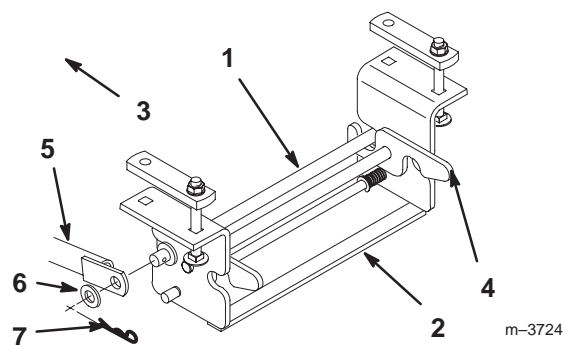

Figure 29
2. Remove the other ends of the two support braces from the rear Attach-A-Matic hitch mount by removing the hairpin cottes and washers (Fig. 29).
3. Release the latches on the rear Attach-A-Matic hitch and remove the support rod link (Fig. 29).